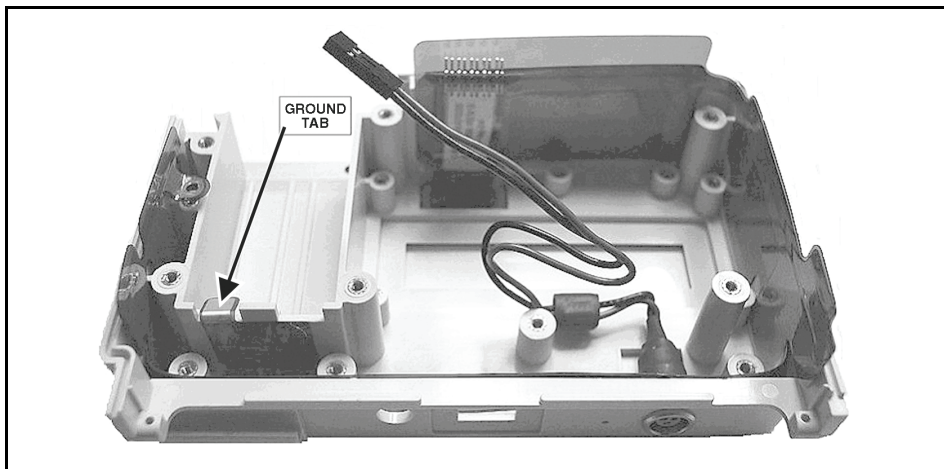

Figure 6-15. ESD Flex Circuit Installation
4. Refer to Figure 6-15. Position the ESD Flex Circuit around the perimeter of the Front Case, then bend the ground tab around the battery compartment wall.